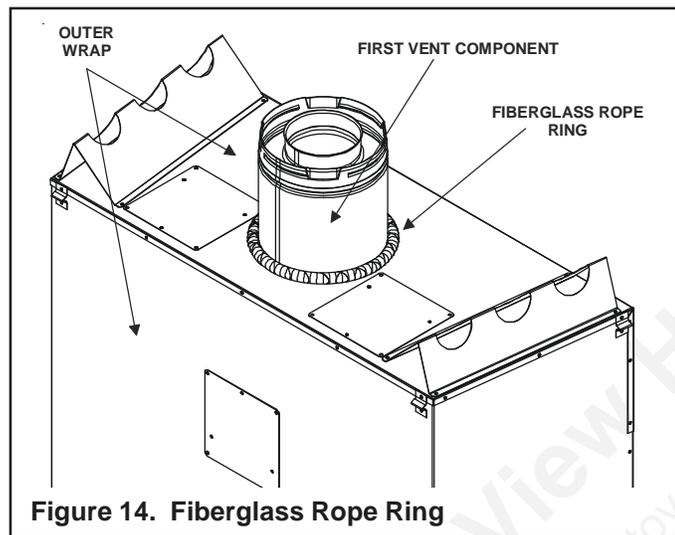

Figure 14. Fiberglass Rope Ring
- Make sure that the fiberglass rope ring supplied in the manual bag seals between the first 8 inch (203mm) vent component and the outer fireplace wrap (see Figure 14).